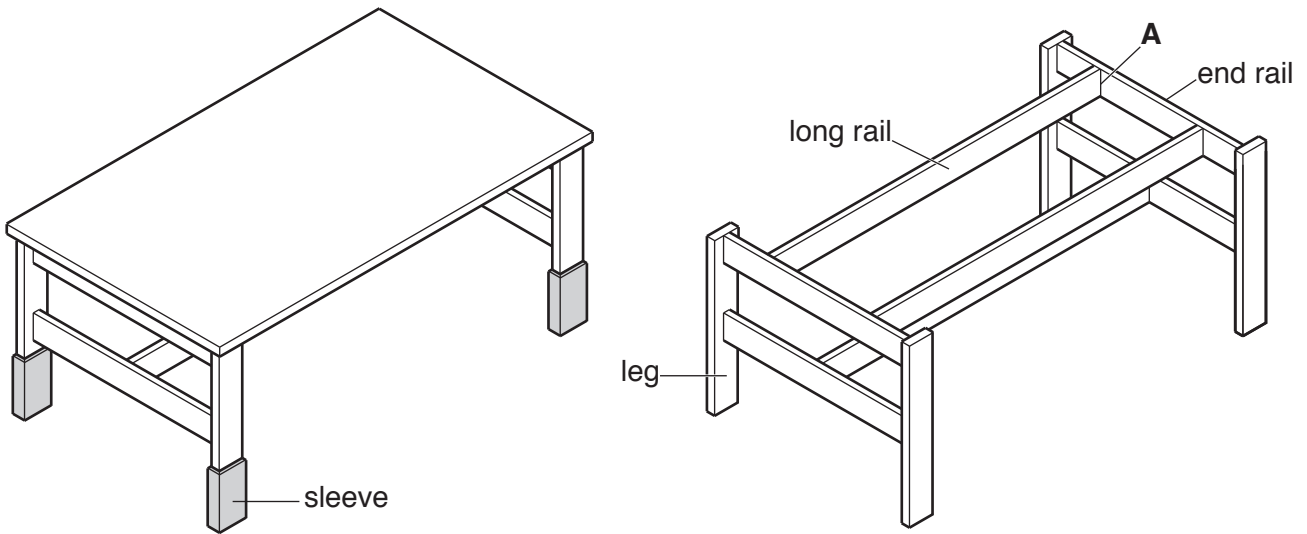

Fig. 17
13 Fig. 17 shows views of a children’s play table. The height of the table can be adjusted by means of sleeves that fit over the ends of the legs. The table is produced as flat-pack for self-assembly.
- (e) The parts of the table shown in Fig. 17 will be assembled using dowels and screws.